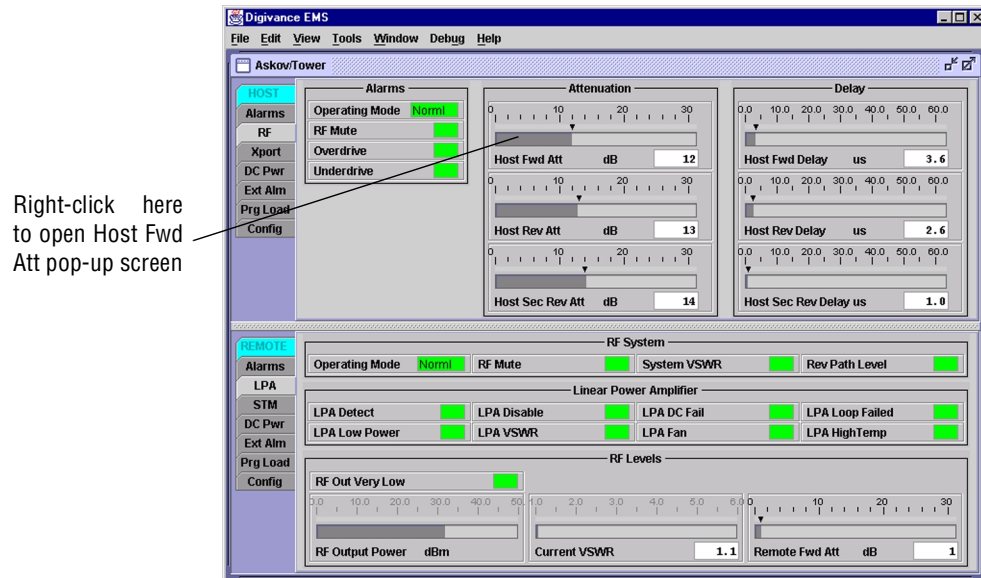
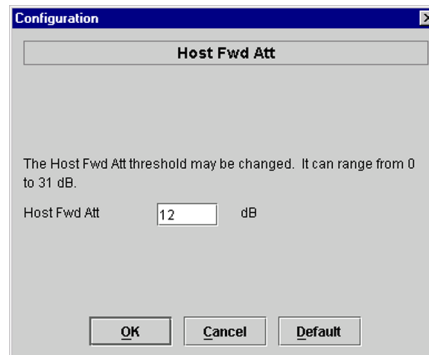

Figure 4-8. HOST RF Display
Figure 4-9. Host Fwd Att Pop-Up Screen
1. Click on the **HOST RF** tab. The **HOST RF** display will open within the EMS main window as shown in Figure 4-8.
2. Right-click on the **Host Fwd Att** section of the display (see Figure 4-8). The **Host Fwd Att** pop-up screen will open as shown in Figure 4-9.